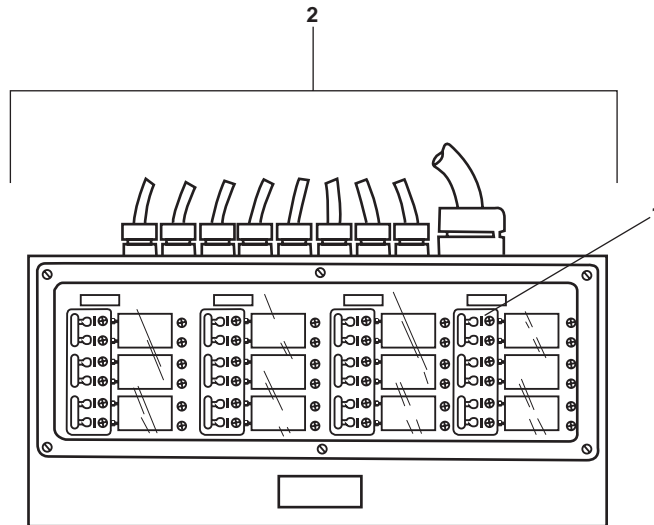

Figure 16. Machinery DC Control Panel
1. Set to ON the CRANE LOAD circuit breaker (figure 16, item 1) on the machinery DC control panel (figure 16, item 2) in the engine room.